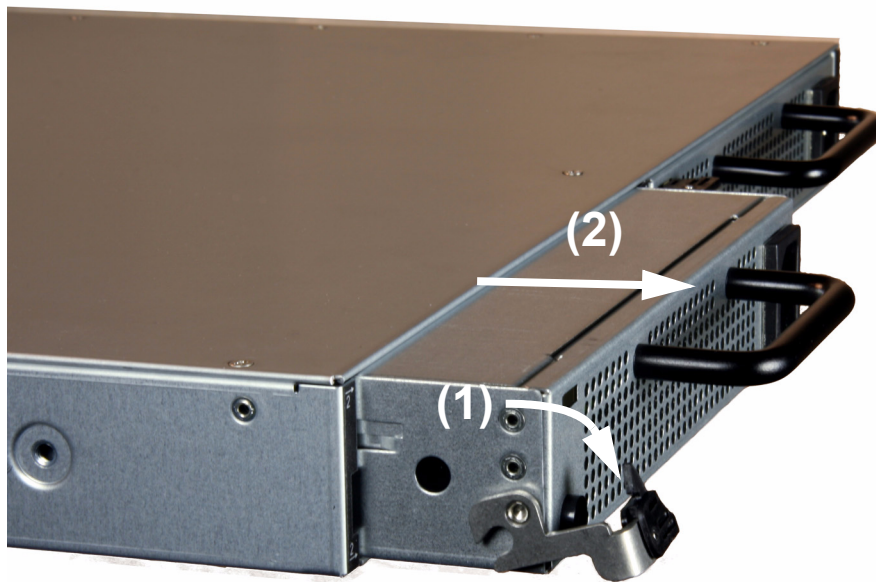

**Figure 6-6 Removing the Failed PCM**
4. Release the chassis latch on the left side of the unplugged PCM. As shown in Figure 6-6, pull down on the lever to unseat the PCM (1), then remove the PCM by pulling straight back on the handle (2).
2. Insert the replacement PCM into the iSR6250 chassis. As shown in Figure 6-6, push the PCM straight into the chassis (1) and make sure the PCM is properly seated into the chassis mid-plane by pushing the lever up and locking the latch in the up position (2). The PCM fans will turn on and the LED should show an amber status.